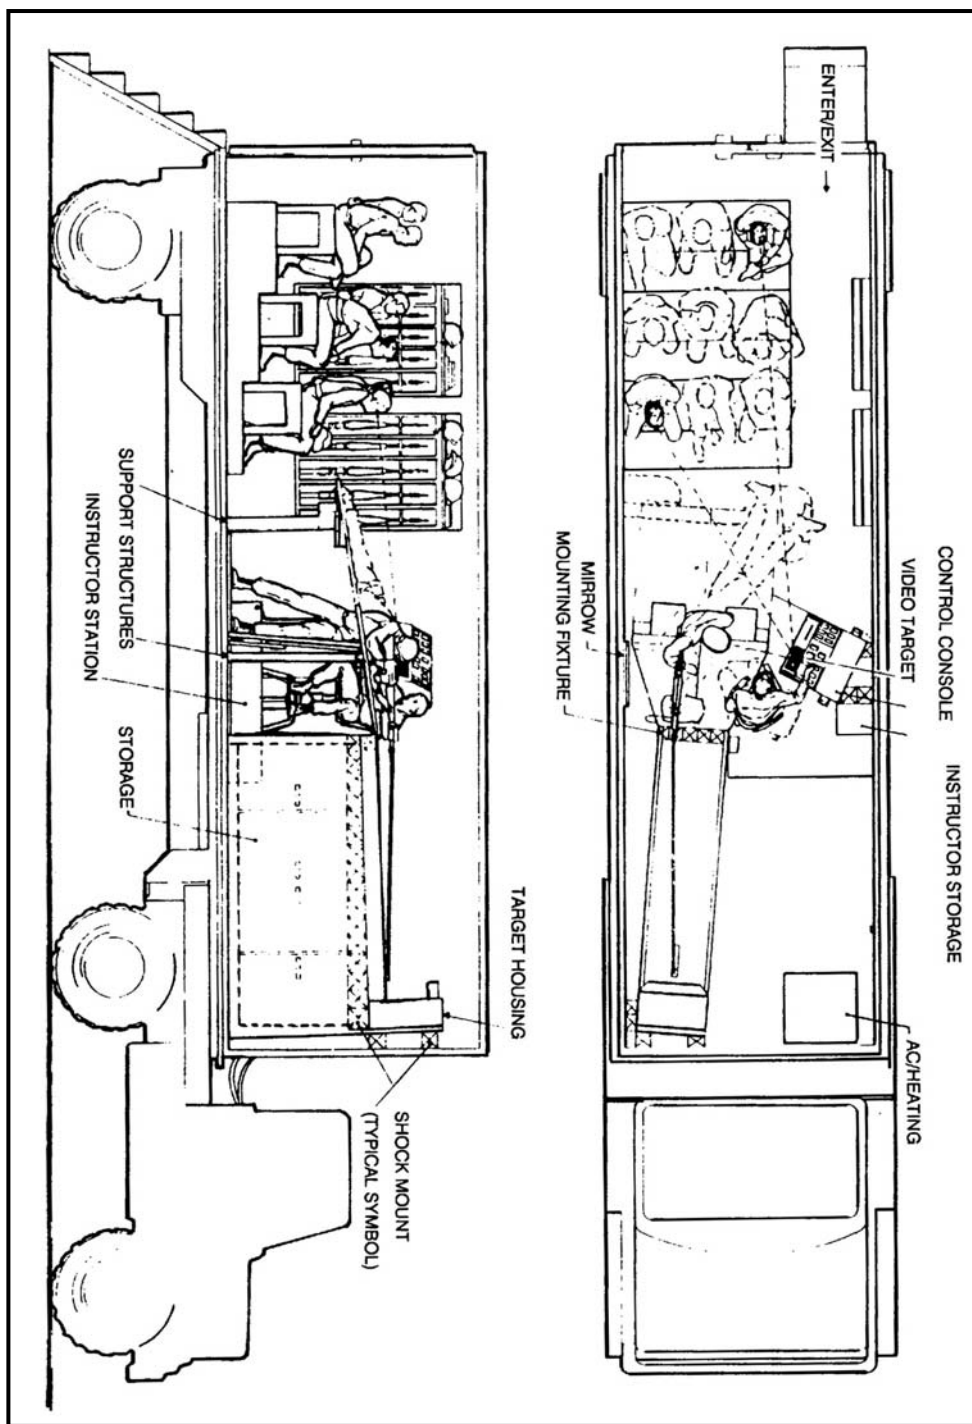
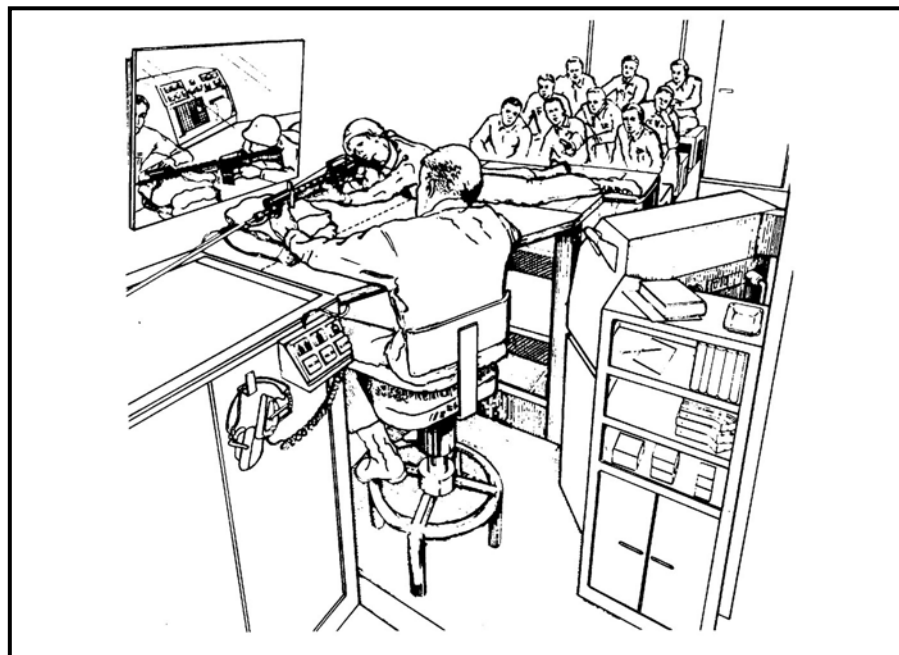

Figure A-16. Mobile training unit (conceptual).
Figure A-17. Mobile mounting stand.
f. **Mobile Configuration.** To use the Weaponeer in a mobile configuration, it must be shock mounted. (The manufacturer's conceptual mobile training unit is shown in Figure A-16.) The TSC, Fort Benning, Georgia, has adopted a mobile mounting stand for supporting the Weaponeer range assembly and computer console (Figure A-17, page A-20).